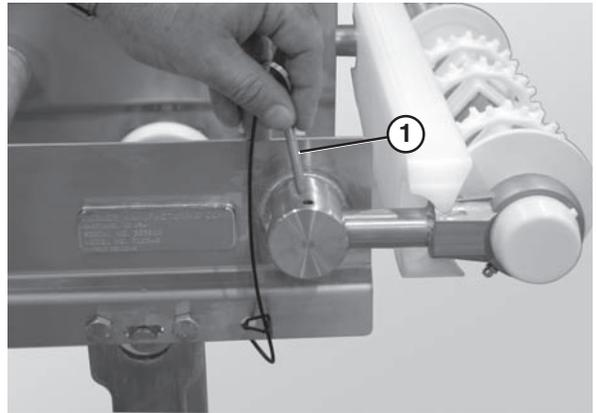

Figure 68
5. Remove the pull pin (**Figure 68, item 1**).
1. Remove the pull pins (**Figure 68, item 1**).